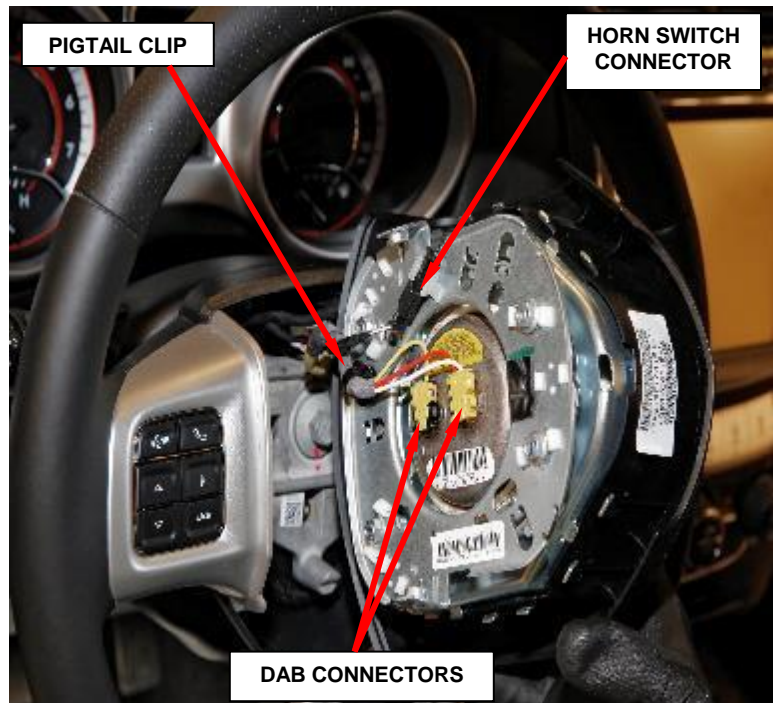

Figure 2 – DAB Electrical Connectors
5. Disconnect the steering wheel wire harness connector from the floating horn switch connector on the back of the switch (Figure 2).
6. The clockspring DAB pigtail wire connector insulators are secured by integral latches to the airbag inflator connector receptacles, which are located on the back of the DAB housing. Pinch both latches firmly, then pull the insulators straight out from the airbag inflator to disconnect them from the connector receptacles (Figure 2).
7. Release the clockspring DAB pigtail clip from the floating horn switch (Figure 2).